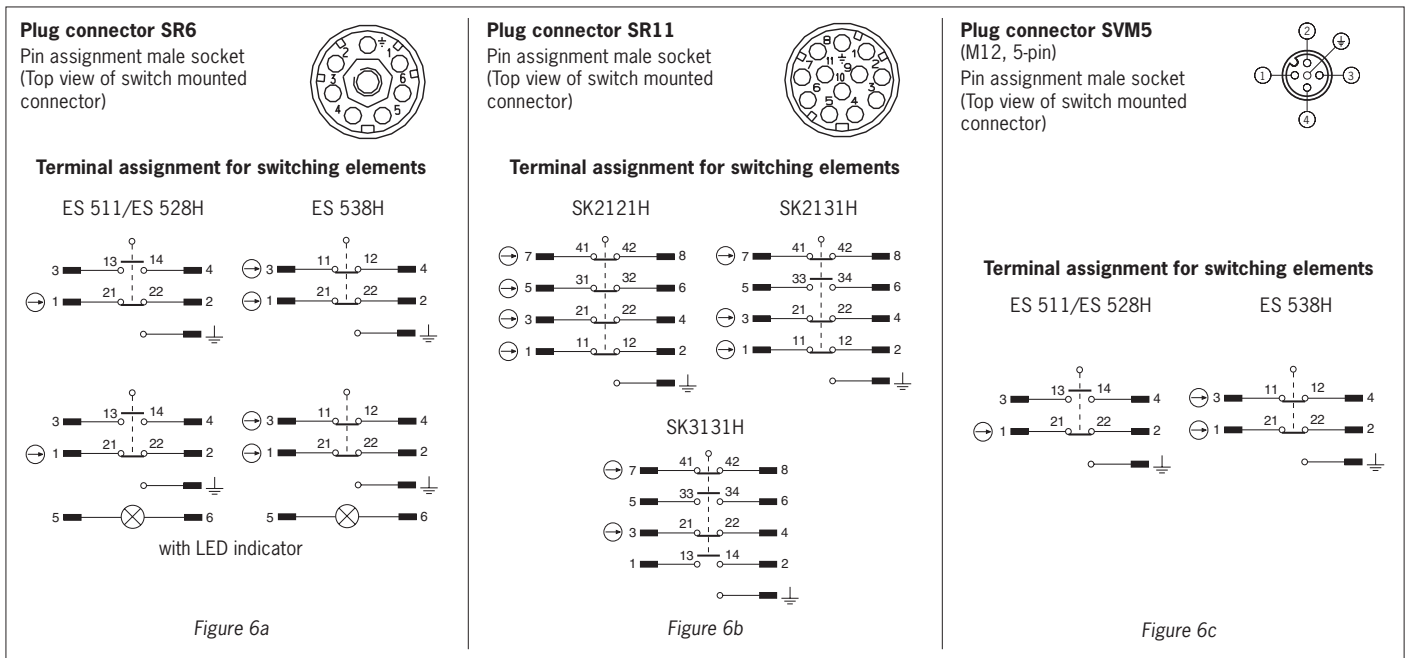

Figure 6: Switching element and connector assignment
- ▶ For terminal assignment see Figure 6.